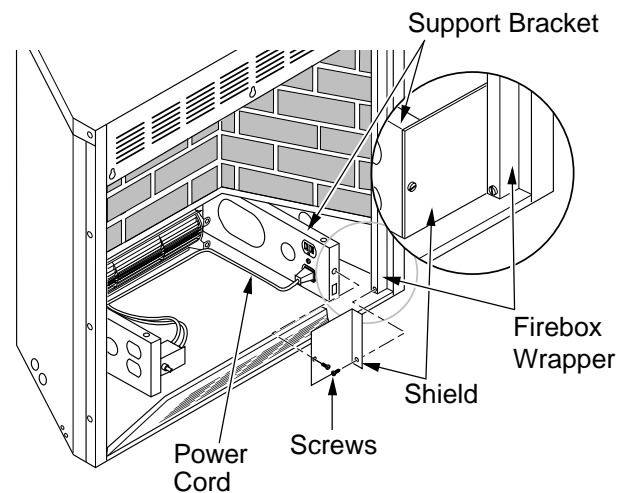

Figure 18 - Attaching Fireplace to Wall Studs (FPVF33PR Shown)
6. Install shield to end of right support bracket and behind the firebox wrapper with 2 screws provided (see Figure 18).